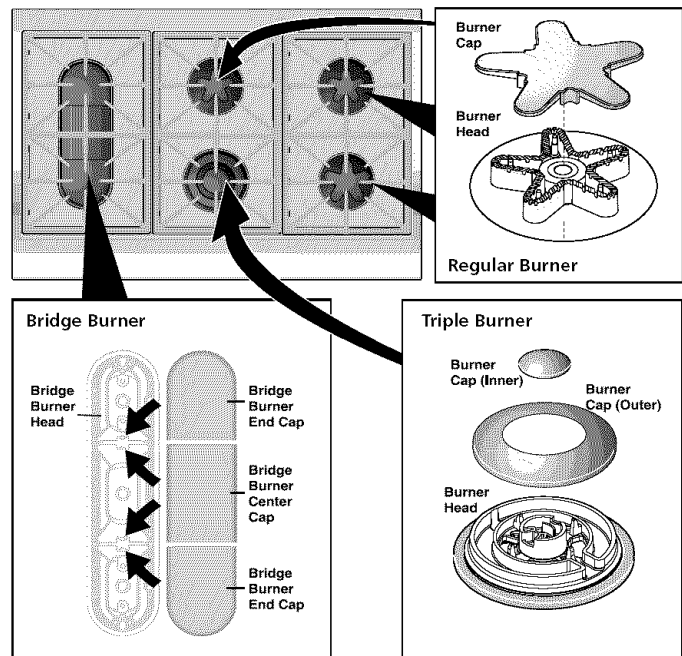
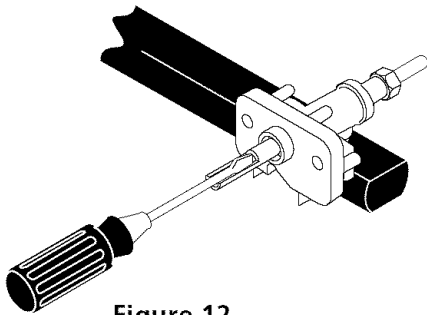
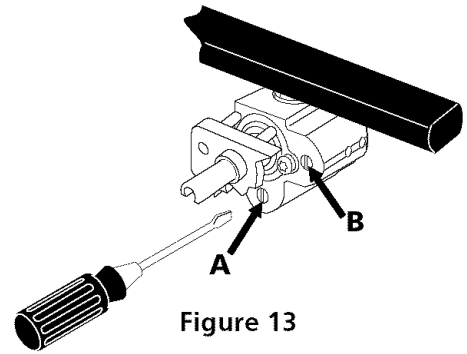

Figure 11
Figure 12
Figure 13
This range is equipped with sealed burners as shown (see Figure 11). All pieces are at their place. Take note where they are. **Remove all packaging material located under the bridge burner head.** Make sure the burner is properly aligned and leveled. **NOTE:** There are no burner adjustments necessary on this range.
4. Adjust the "LOW" Setting of Regular Burner (see Figure 11) on the Surface Burner Valves (Figure 12):
5. Adjust the "LOW" Setting of the Dual Burner (Bridge & Triple - see Figure 11) on the Surface Burner Valve (Figure 13):
- The rear portion of the bridge burner flame size can be increased or decreased by turning screw **A** (see Figure 13). Use screw **B** to adjust the flame size of the center portion of the bridge or triple burner. Turn counterclockwise the screw to increase flame size. Turn clockwise the screw to decrease flame size. Adjust flame until you can quickly turn knob from LITE to LOWEST POSITION without extinguishing the flame. Flame should be as small as possible without going out.